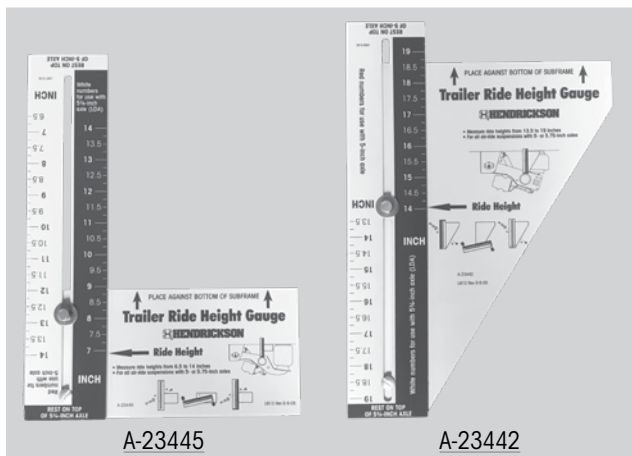

Figure 3: Hendrickson ride height gauges
- i. Use a Hendrickson Ride Height Gauge (Figure 3) to measure the distance between the axle and the mounting surface of the suspension. A ride height gauge works with both 5-inch and LDA (5.75-inch) axle diameters. Ensure the appropriate scale is being used when measuring.